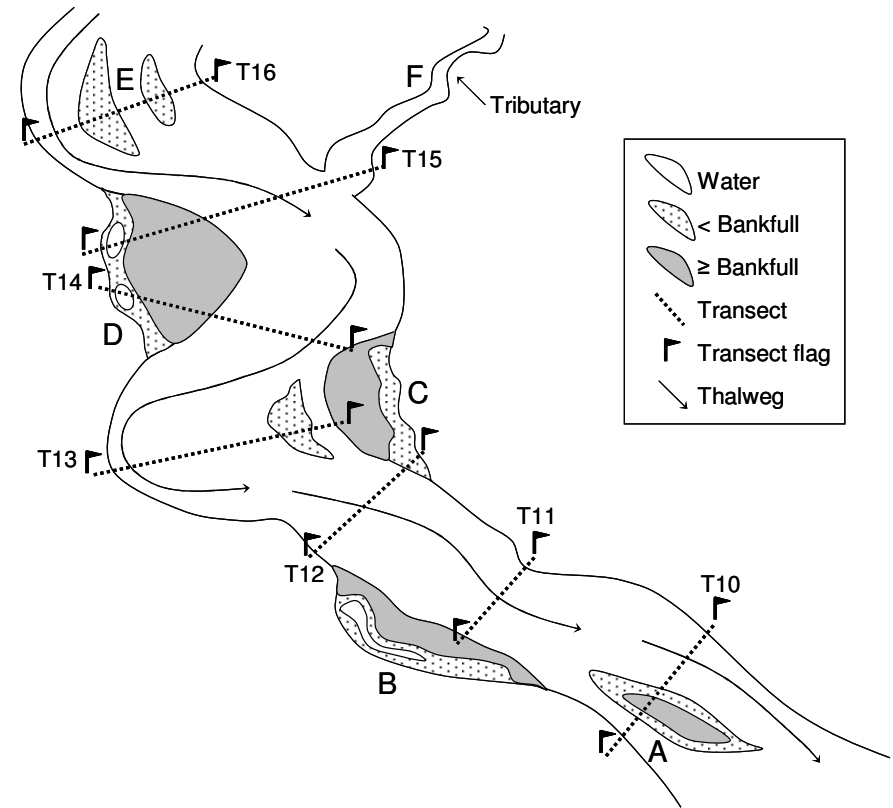

Figure 2. Transect placement when side channels are encountered.
- The main channel (MC) has the most volume of water flowing through it; additional channels are referred to as side channels.
- A side channel (SC) is any channel separated directly from the main channel by an island / bar with an elevation above bankfull (A Figure 2).
- Channels that are separated from the main channel by islands <bankfull elevation are considered part of the main channel (E Figure 2).
- Place flags in all side channels that have flowing water through their entire course (A Figure 2).
- Do not sample in tributaries (F Figure 2).
2. Don't include it if at any location (normally at the upstream end) the side channel's thalweg is \geq bankfull elevation (B & C Figure 3), unless at that transect the island is below bankfull; then the flag will be placed on the outside bank of the side channel (transect 12 in Figure 2).